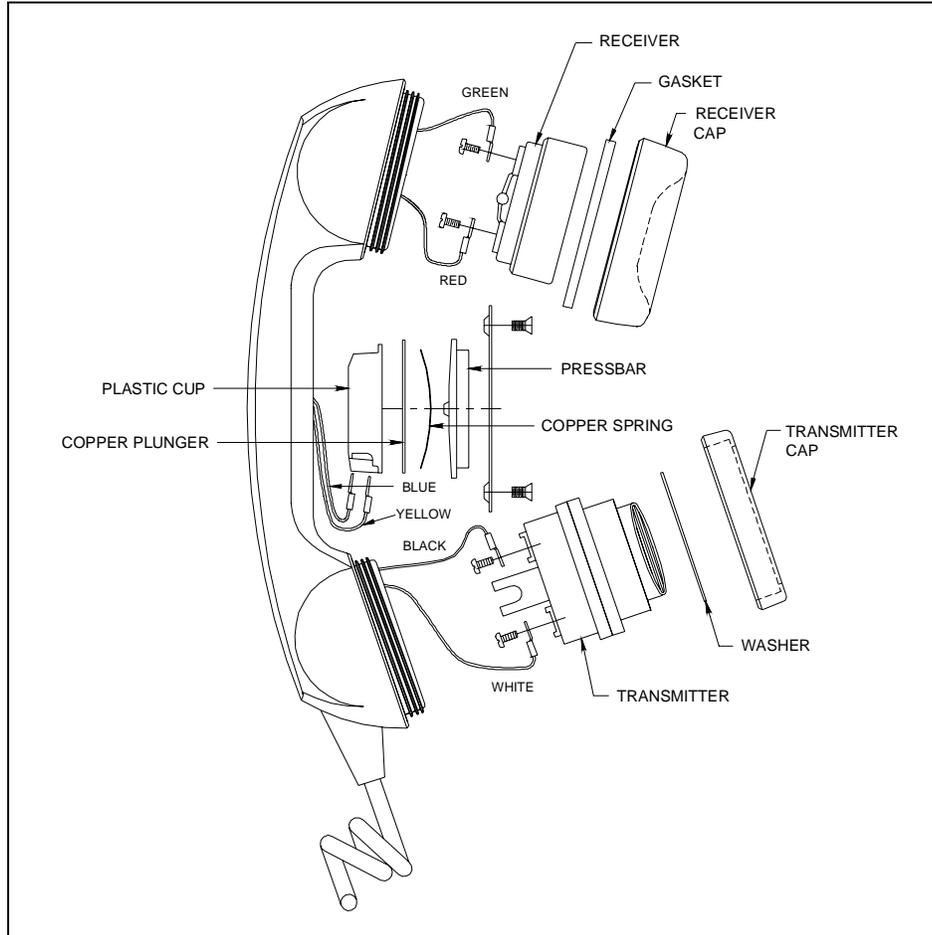

Figure 1. Handset Outline Diagram
14. Refer to Figure 1. Place the copper piece with the rubber center in first, with the solid rubber side facing outward.
15. Refer to Figure 1. Place the copper piece with the rubber center in first, with the solid rubber side outward.